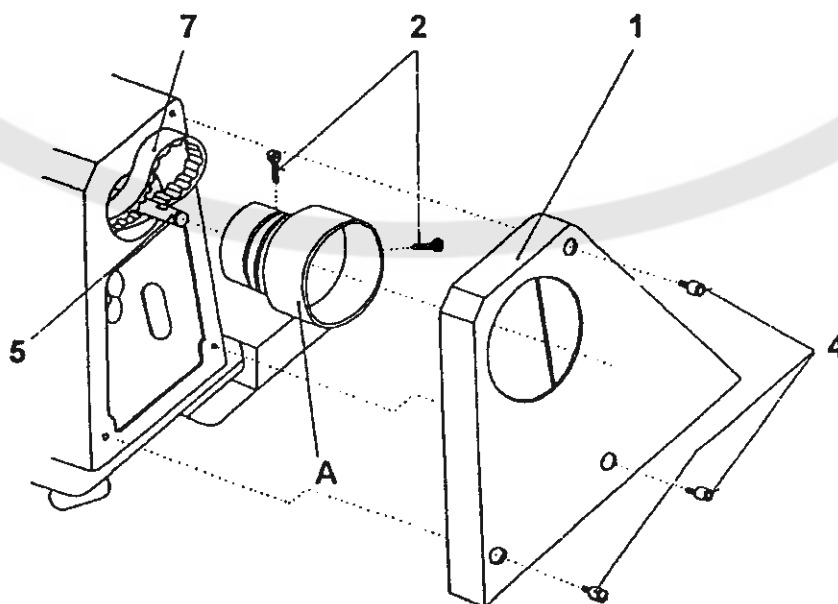

Fig. 10
15. To dismantle and mount the drive belt (Fig. 10)